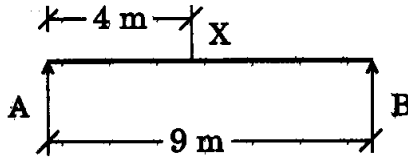

Figure 1
2. Draw the influences line for BM and SF at point 'X' (Figure 1) in the simply supported beam AB of span 9 m.